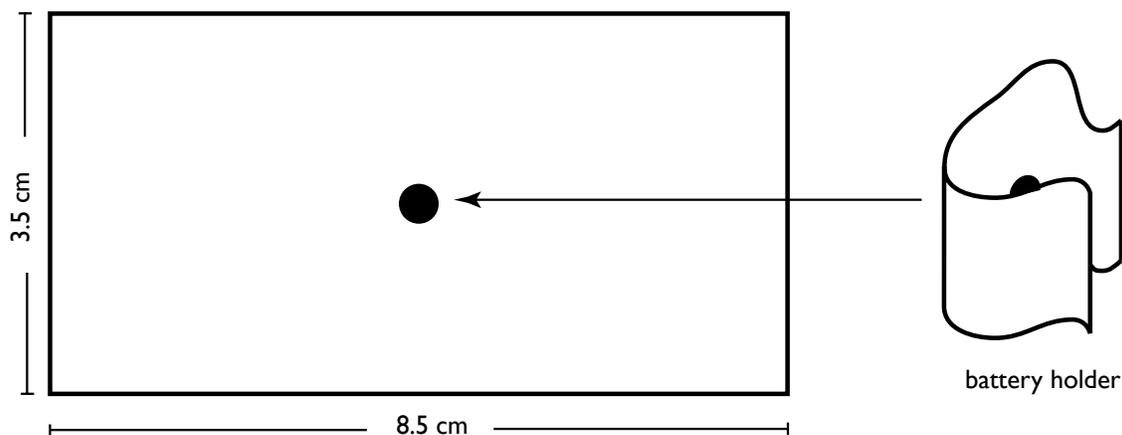

Figure 2. Making the hole for the battery holder.
- Using a nail or awl start a small hole in the center of the $3.5\text{ cm} \times 8.5\text{ cm}$ surface of the wood block (Figure 2).
- Attach the battery holder to the wood block, fixing it in place with the #5 or #6 self-starting screw (Figure 2).